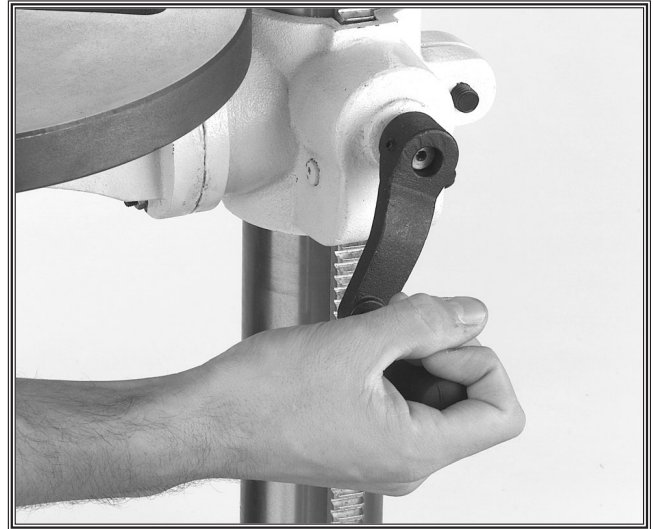

Figure 30. Raise or lower the table.
2. Turn the hand crank to raise or lower the table, as shown in **Figure 30**.